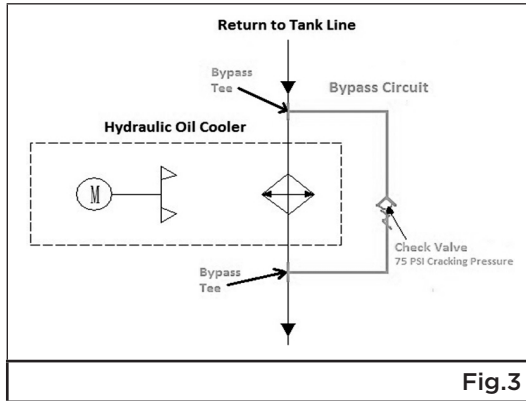

Fig.3
8. install a bypass circuit to avoid damaging the oil cooler if the ambient temperature will be below 40°F (4.4°C). At low temperatures, the oil will thicken and could cause a rupture due to backpressure when the oil is forced through the cooler's small passages. Please install the bypass circuit according to Fig. 3.